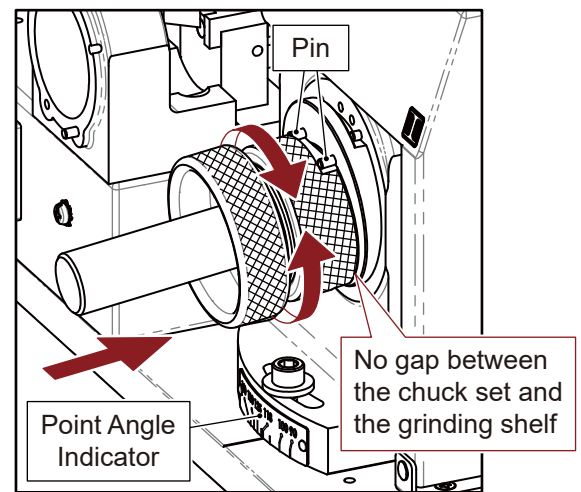

Fig. 9-1
1. Cutting Lip Grinding (Fig. 9-1)
- ① Insert the chuck set into the cutting lip grinding shelf (I), align the slot of clamping nut to the two pins on the grinding shelf, push the chuck set gently and turn it clockwise and counter-clockwise until the grinding noise stops.
- ② Take the chuck set out, turn it to the other side and grind the drill in the same way.